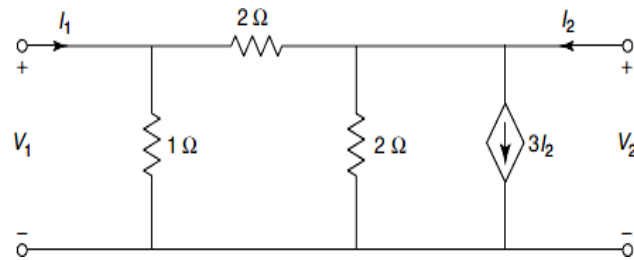

Figure:4
b) For the following network shown in figure 4, find the Y- parameters. [6+9]